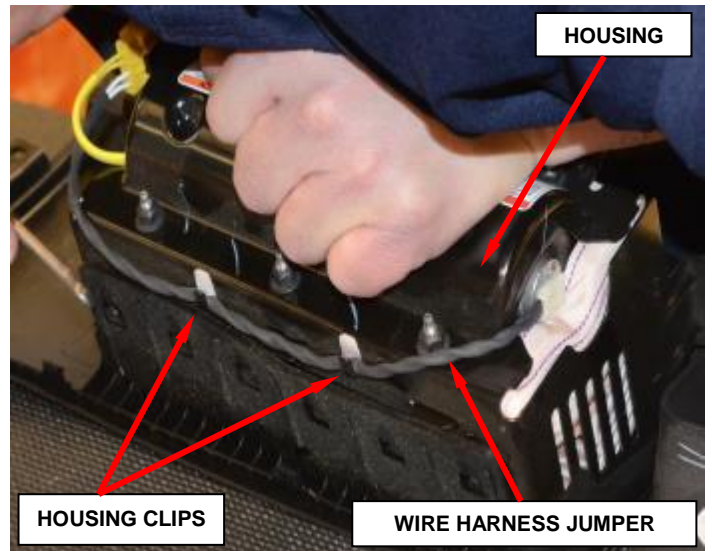

Figure 18 - Wire Harness Clips
- b. Disengage the wire harness jumper from the housing clips in two places (Figure 18).
- p. Clip the wire harness jumper three way connector on the housing in two places (Figure 18).